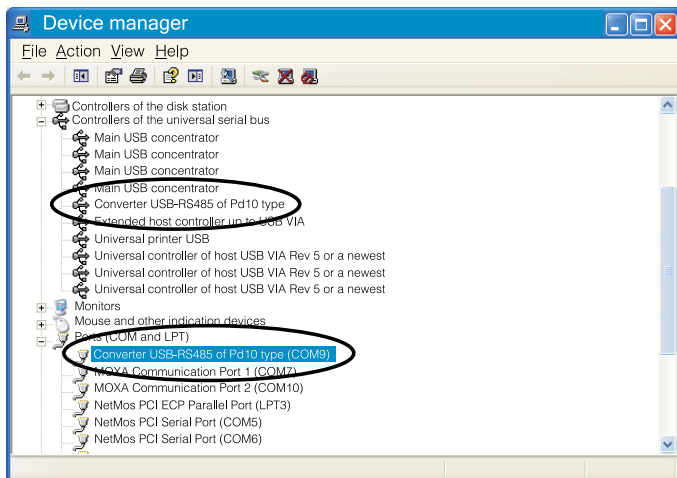

Fig. 6. Correct installation of PD10 in the Win32 system
- **Converter USB—RS485 of P10 type** and Port COM named: **Converter USB-RS485 of PD10 type**, acc. the fig. 6.